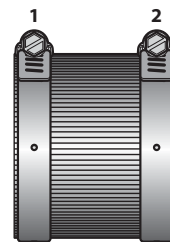

Figure 9
7.9.1. For sizes 1-1/2" to 4", tighten clamp 1 and then clamp 2 alternately in 20 inch-lb increments until the recommended 60 inch-lb is reached (See Figure 9).